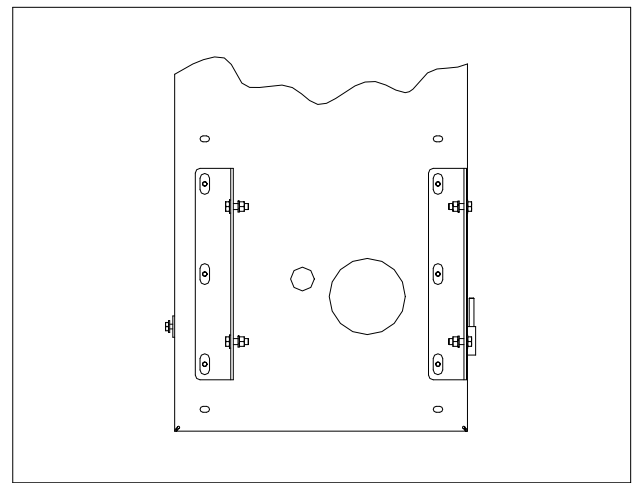

Figure 12 – Mounting Brackets in Position C
2. Using the hardware provided, assemble the two brackets to the back cover as shown in Figure 12. Note that the brackets are mounted so that the angles of the brackets are mounted in the same direction. Do not fully tighten these bolts.